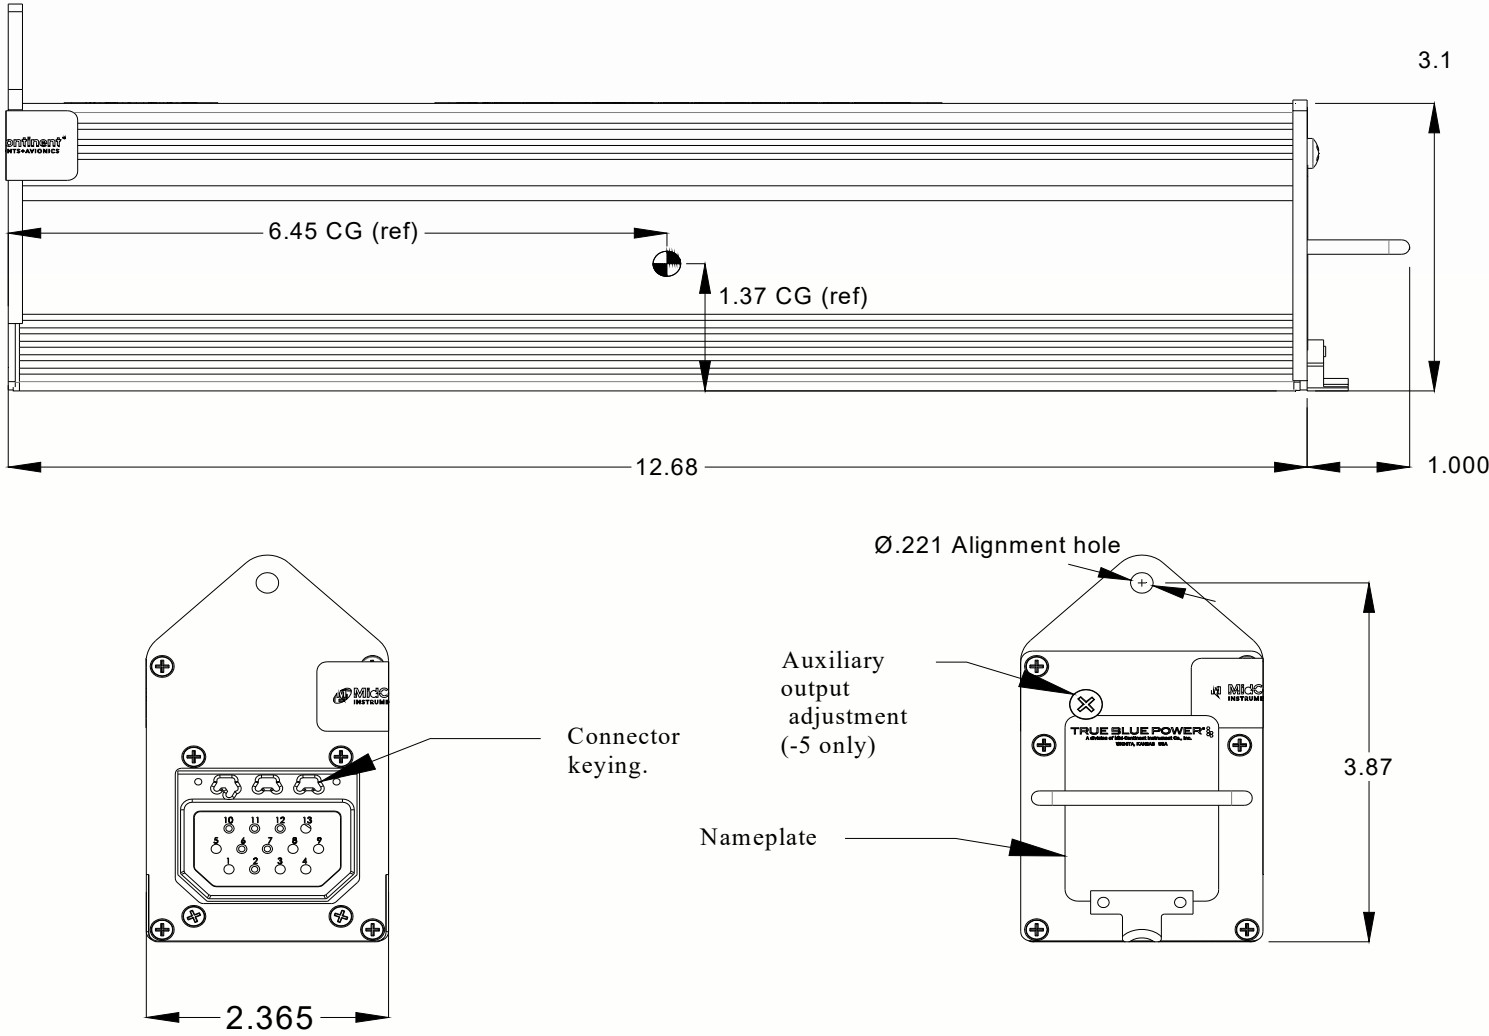

Figure 2.2 TS835 Outline Drawing
Dimensions (see Figure 2.2)	12.7 inches long max. (+1 inch for handle) 3.1 inches high max. (excluding rear tab) 2.3 inches wide max.
- C. For MD835-5 version, set the output voltage (3.0-5.5V) of the Auxiliary Power Supply by gently turning the adjustment screw accessed through the front of the unit. See Figure 2.2.